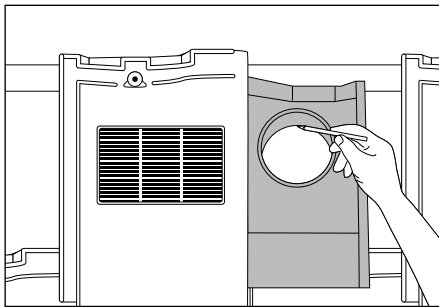

Fig 1
- 1 Determine the position of the tile vent terminal (ideally mid-span between rafters) and mark the position of the projecting spigot (Fig. 1). The spigot tray may be detached from underside of tile vent for accurate positioning at different batten gauges but must be be reassembled correctly.